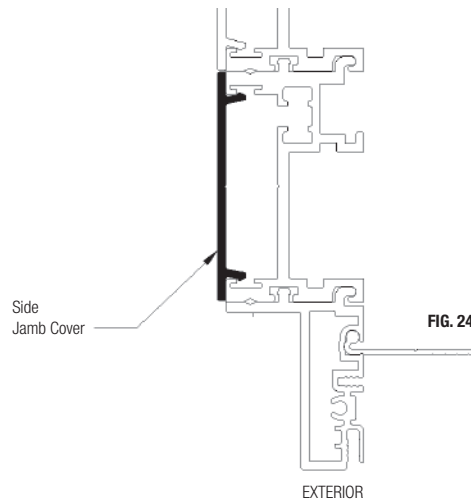

FIG. 24
- Make sure the track cap is tight against the side jamb and gently insert it in place. (Fig. 24)